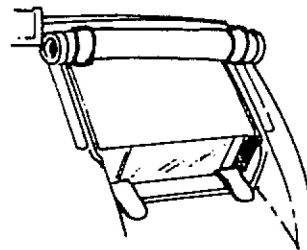

figure 21
- 3.4 You must roll and secure headlight flaps as shown in figure 21 before switching on your headlights. Roll the flaps under—so that the